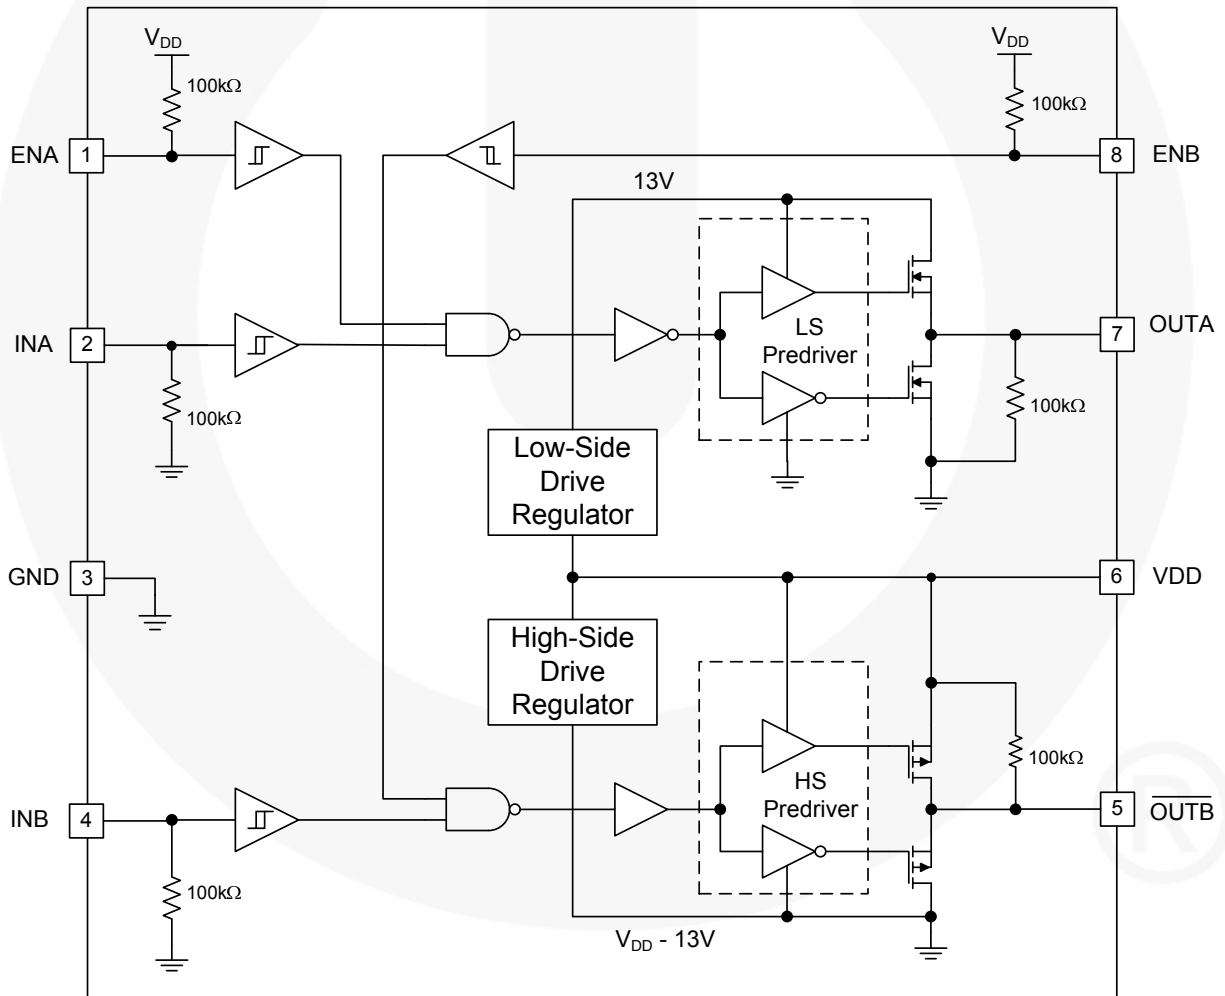

Figure 4. Block Diagram
12. For any inverting inputs pulled LOW, non-inverting inputs pulled HIGH, or outputs driven HIGH; static I_{DD} increases by the current flowing through the corresponding pull-up/down resistor, shown in Figure 4.